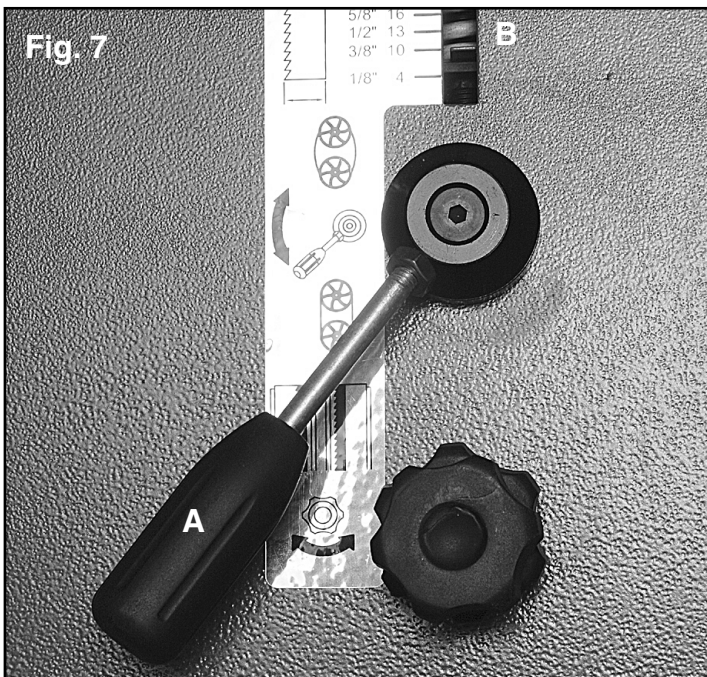

Fig. 7
- Loosen the lever on the rear of bandsaw by pushing it up. Fig 7. A This will release the blade tension.
- Re-tension the blade by pushing lever Fig 7 A down.